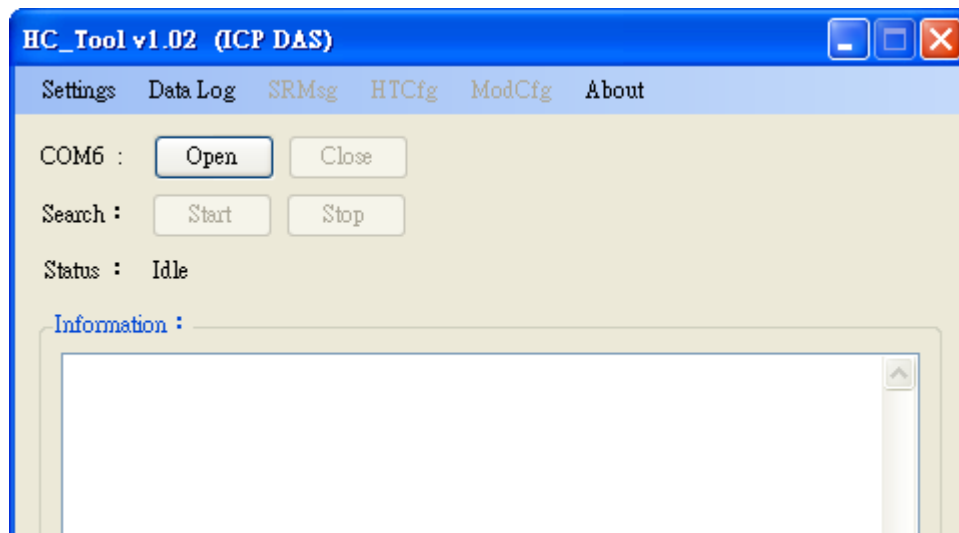

Figure 4-2 HC\_Tool Utility
Step 2: (1) Execute HC\_Tool, like Figure 4-2.